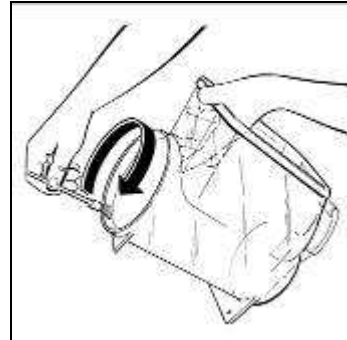

Fig. 23
- Moisten with water the rear of the tank where it meets with the seal to facilitate the reassembling procedures (see fig.23);